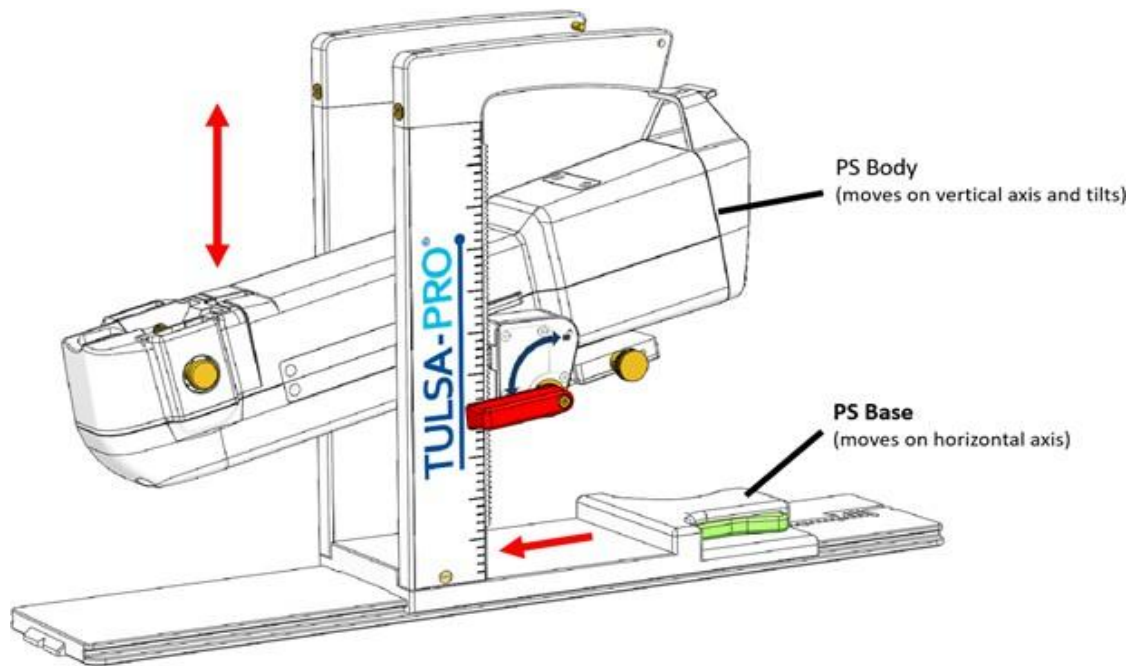

Figure 25: Adjusting the Positioning System
3. **MRI Technologist:** Manually move the PS into position so that the UA gripper aligns with the natural angle of the UA in the patient. Manually adjust the PS forward and backward, up and down, and left to right, and tilt the linear axis of the PS up and down (*Figure 25*).
**NOTE:** The PS adjustment knobs and levers are not colored as in *Figure 25*, but are colored here to help with these instructions.